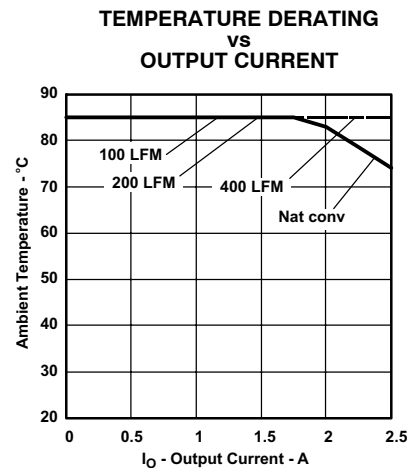

Figure 12.
- (6) The temperature derating curves represent operating conditions at which internal components are at or below manufacturer's maximum rated operating temperature. Derating limits apply to modules soldered directly to a 100-mm x 100-mm, double-sided PCB with 2 oz. copper. For surface mount packages, multiple vias (plated through holes) are required to add thermal paths around the power pins. Please refer to the mechanical specification for more information. Applies to Figure 12.